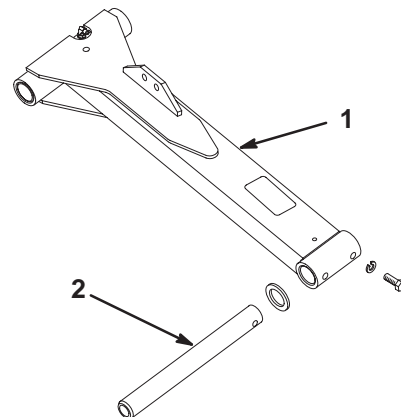

Figure 6
1. Insert a pivot rod into the left lift arm and align the mounting holes (Fig. 6).